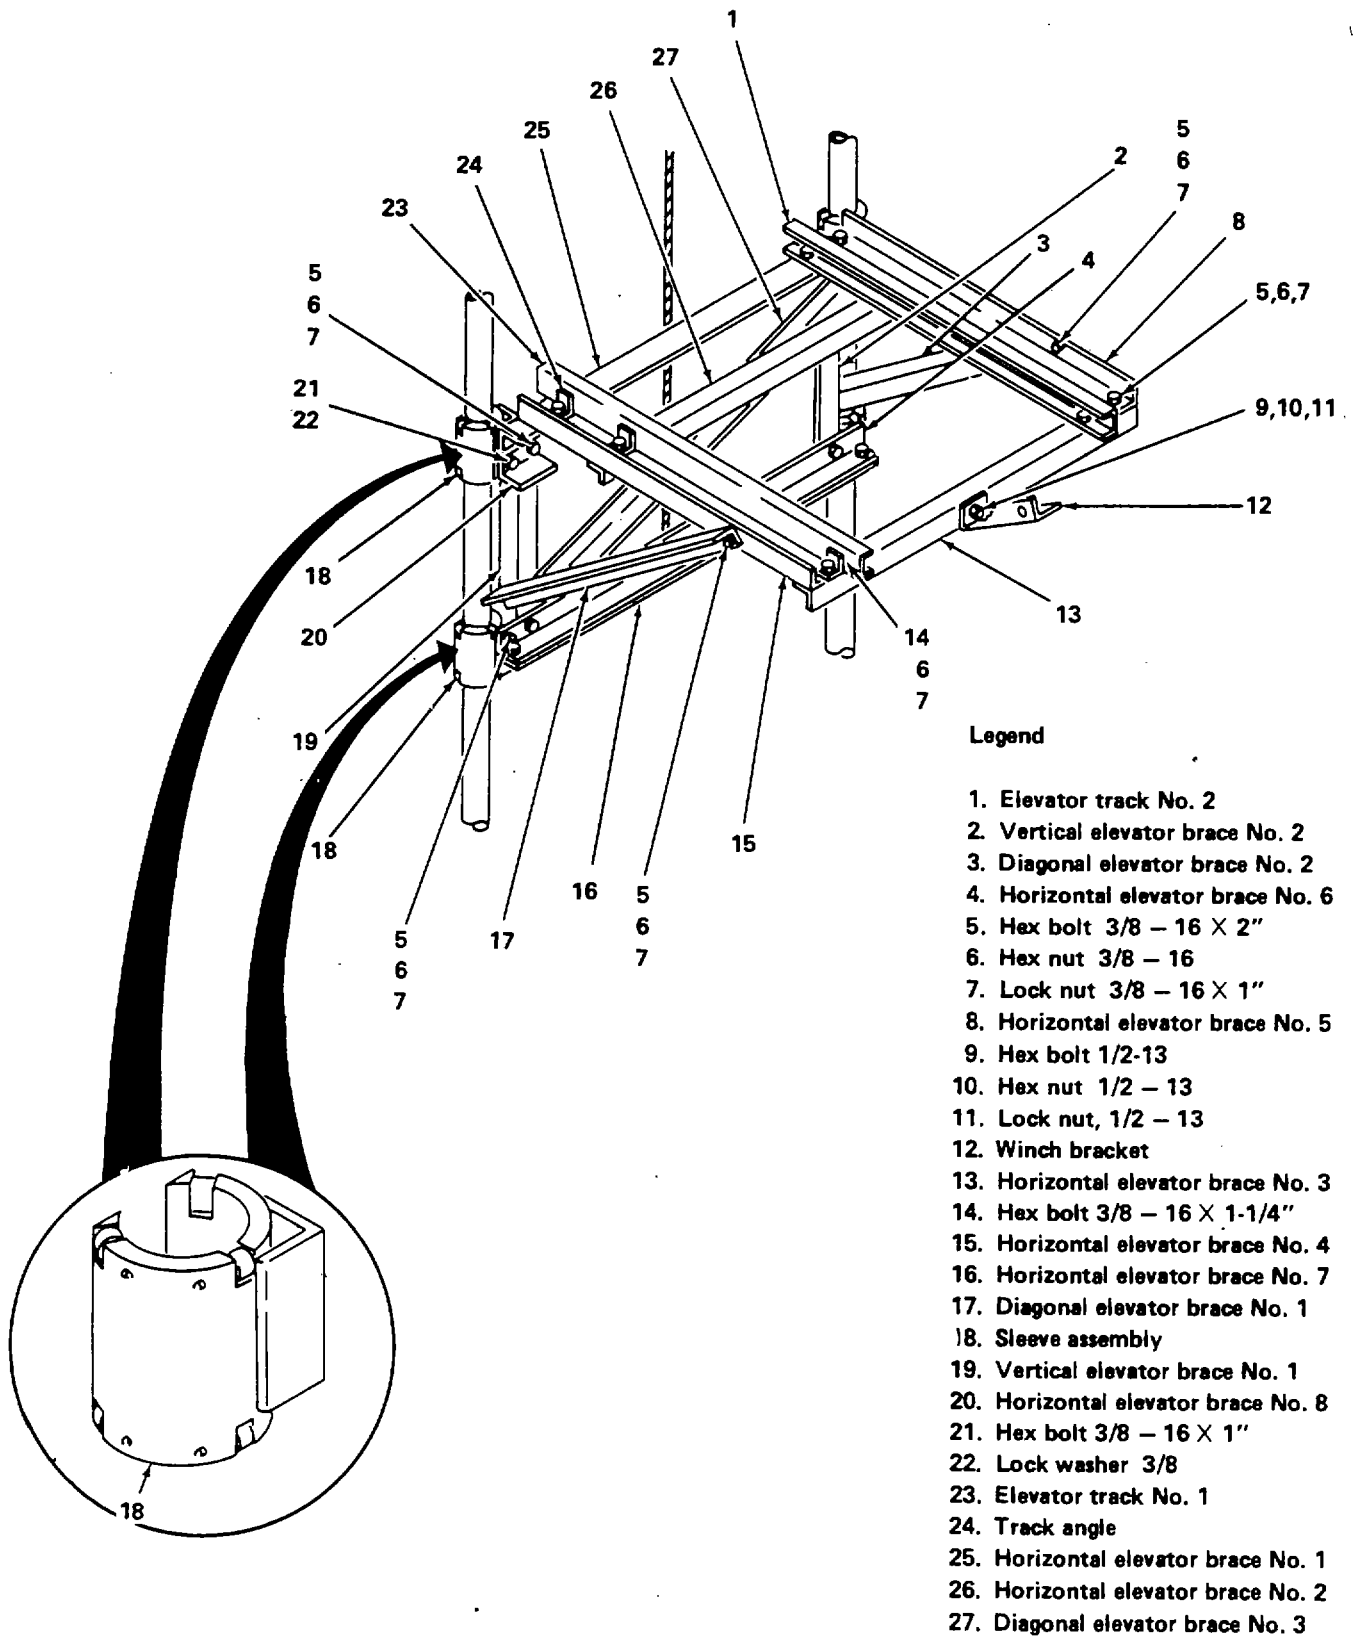

Figure 2-11. Elevator Assembly
(4) Attach sheave bracket (9) to tower top brace. Secure with two bevel washers (5), hex nuts (6), and locknuts (7).
(5) Install sheave (10) and two spacers (11) to sheave bracket (9).
(6) Thread hoist cable (12) through sheave. Temporarily secure free end to the top tower step.
*c. Elevator Assembly and Installation.* Refer to figure 2-11.
(1) Insert two sleeve assemblies (18) onto each vertical track. Orient sleeve assemblies as shown.
(2) Attach horizontal elevator brace (25) and two horizontal braces (20) to upper sleeve assemblies (18). Secure with two 3/8-inch bolts (5), hex nuts (6), and locknuts (7), and two 3/8-inch bolts (21), and lockwashers (22).
(3) Attach two horizontal elevator braces (4, 16) to the lower sleeve assemblies. Secure with six 3/8-inch bolts (5), hex nuts (6), and locknuts (7).
(4) Attach vertical braces (2,19). Secure with four 3/8-inch bolts (5), hex nuts (6), and locknuts (7).
(5) Install hoist cable to lower horizontal brace (4). Position elevator as desired.
(6) Preassemble horizontal braces (8, 13, 15 26). Secure with four 3/8-inch bolts (5), hex nuts (6), and locknuts (7).
(7) Attach lower end of diagonal braces (3,17) to vertical braces (2, 19). Secure with two 3/8-inch bolts (5), hex nuts (6), and locknuts (7). Do not torque hardware.
(8) Lift preassembled horizontal braces into position and attach to diagonal braces (3,17) and horizontal brace (25). Secure with four 3/8-inch bolts (5), hex nuts (6), and locknuts (7).
(9) Install diagonal brace (27) to vertical braces (2, 19). Secure with two 3/8-inch bolts (5), hex nuts (6), and locknuts (7).
(10) Install six track angles (23) to elevator tracks (1, 22). Secure with six 3/8-inch bolts (14), hex nuts (6), and locknuts (7).